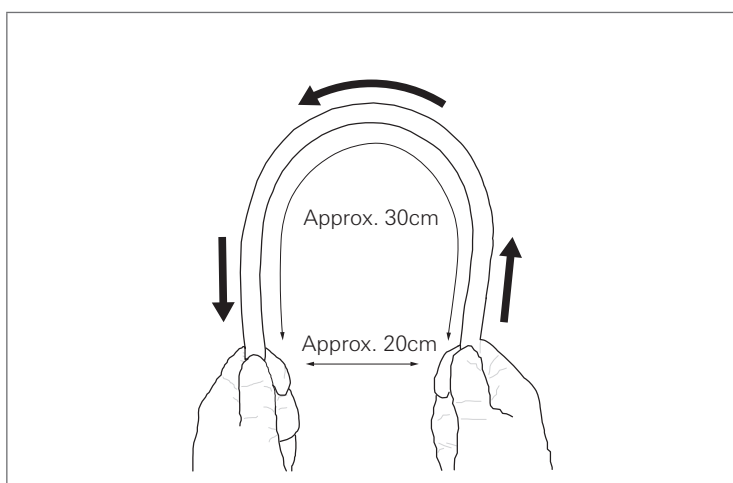

Figure 3.7
9. Form an arch with the insertion tube as shown in Figure 3.7 using both hands. By sliding the insertion tube in the direction of the arrow in Figure 3.7, check that the entire insertion tube can be bent smoothly and easily to form an arch.